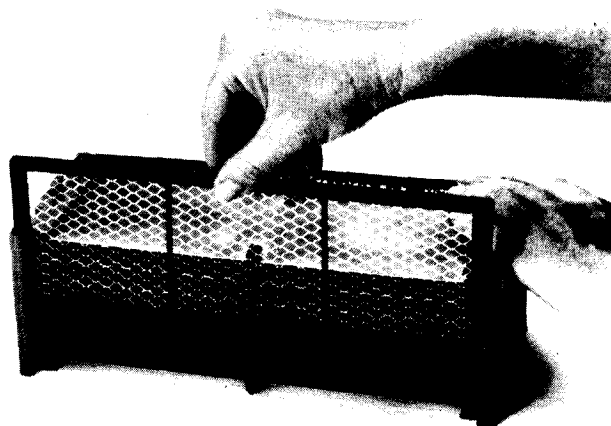

Figure 7
- D. Slide pre-filter upward from front of cell (Figure 7).